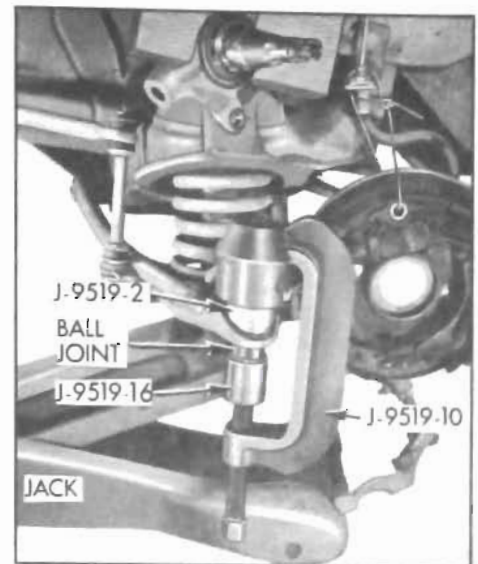

Figure 7-17—Lower Ball Joint Installer in Place
1. Position ball joint minus shipping protector in lower control arm and install Tool J-9519 as shown in Figure 7-17. Note that the larger O.D. portion of Tool Detail J-9519-17 is positioned in Detail J-9519-10.